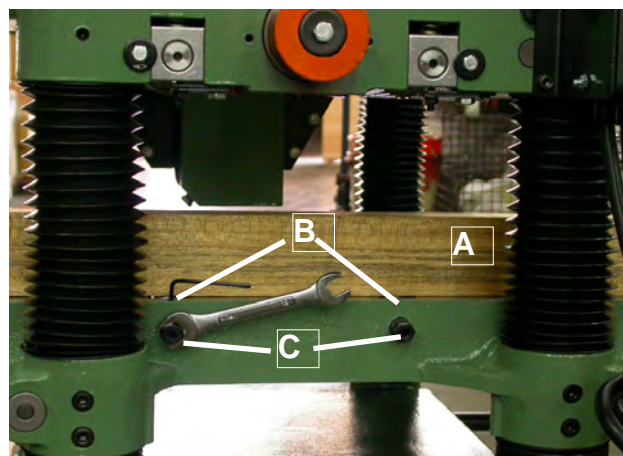

Fig 15
2. Lay a straight edge (A) Fig. 15 across both rollers, loosen the screws (B) Fig. 15, and turn the eccentric shafts (C) to raise or lower the table rollers, when the proper height is obtained tighten screws (B) as shown in Fig. 15. Table rollers must be adjusted on the opposite end of table in the same manner.